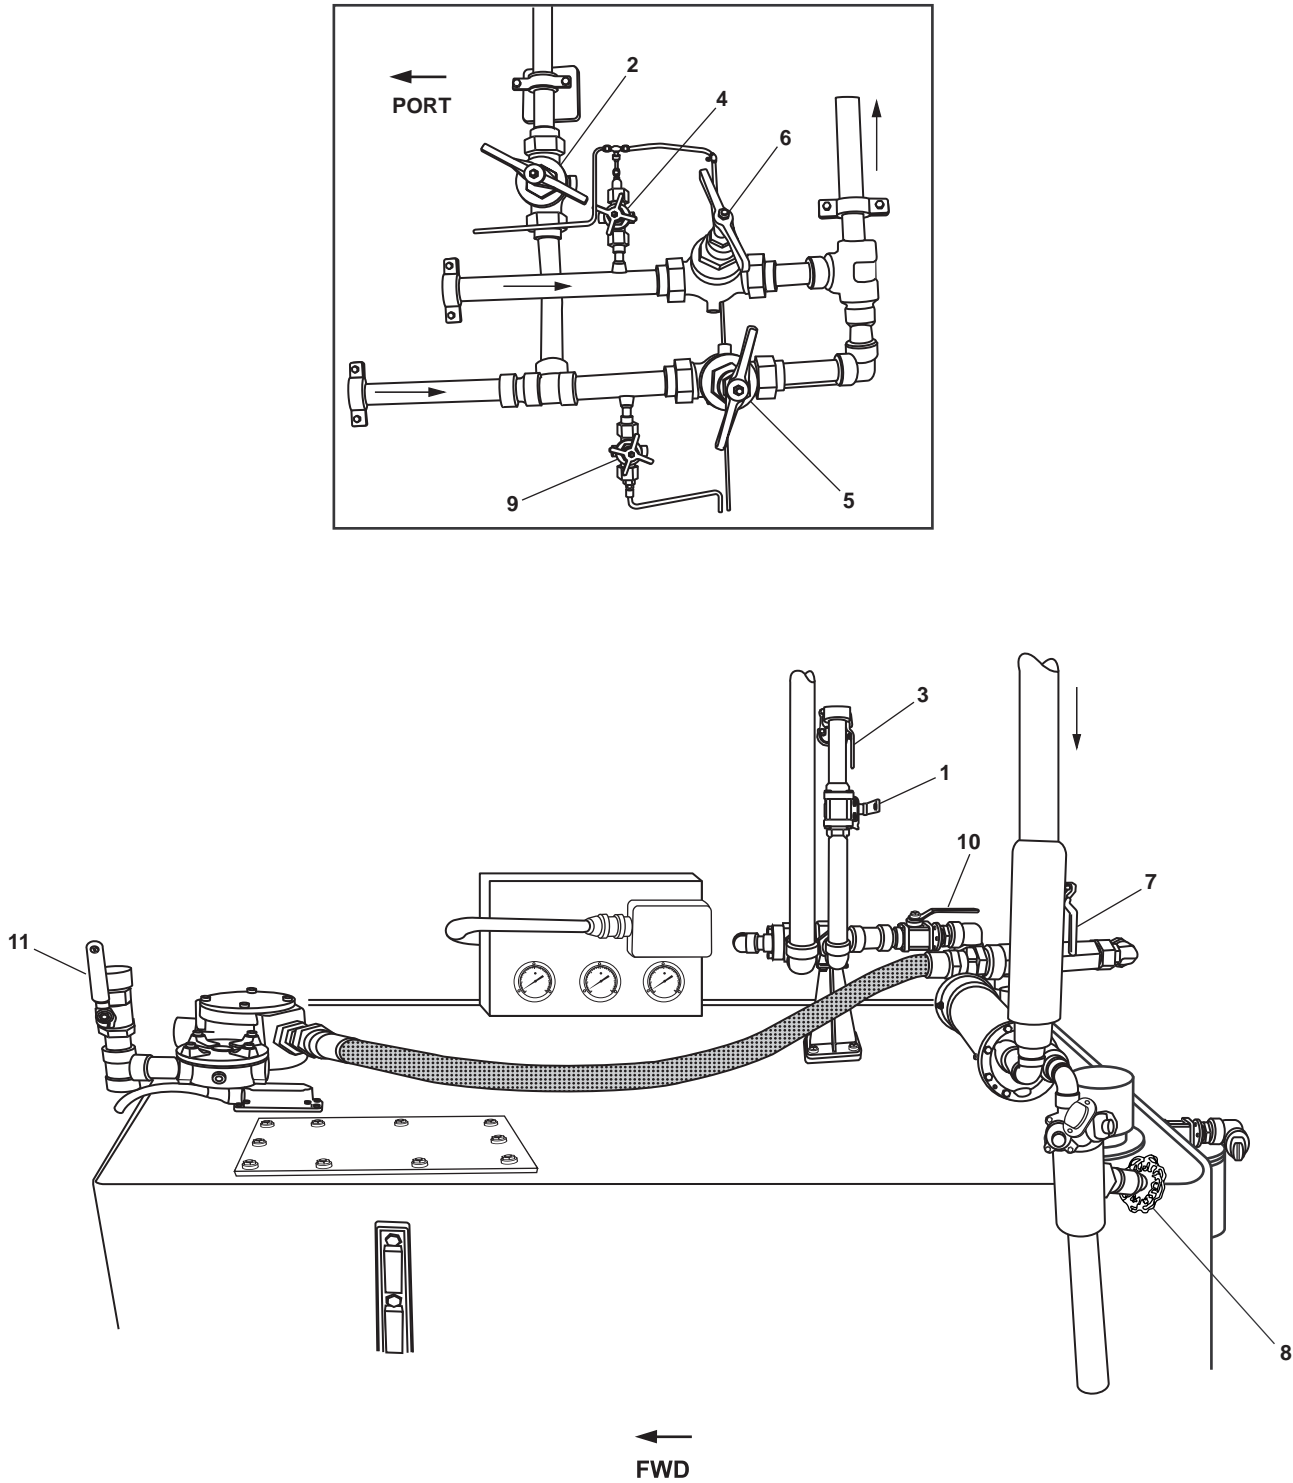

Figure 1. Towing Machine Hydraulic Power Unit
- a. TH-3 RETURN CRSVR. TO CENT. HYD (figure 1, item 1)
- b. TH-2 PRESS CRSVR CTL HYDR TOW WN HYDR (figure 1, item 2)
- c. TH-4 DRAIN CRSVR. TO CENT. HYD. (figure 1, item 3)
- a. TH-13, FLOW CONTROL (figure 1, item 4)
- b. TH-1, C.O.V. PMP DISCH.TO TOW WN. HYD (figure 1, item 5)
- c. TH-14 ,FLOW CONTROL (figure 1, item 6)
- d. GS-75, TOW WN HYD OIL CLR SPLY (figure 1, item 7)
- e. GS-77, HYD OIL CLR DISCH (figure 1, item 8)
- f. TH-12, FLOW CONTROL (figure 1, item 9)
- g. CH-27, RTN CUT-OUT TOW WN. HYDR (figure 1, item 10)
- h. CH-26, DRN CUT-OUT TOW WN. HYDR (figure 1, item 11)
- a. TH-2, PRESS CRSVR CTL HYDR TOW WN HYDR (figure 1, item 2)
- b. TH-3, RETURN CRSVR. TO CENT. HYD (figure 1, item 1)
- c. TH-4, DRAIN CRSVR. TO CENT. HYD. (figure 1, item 3)
- c. TH-14, FLOW CONTROL (figure 1, item 6)